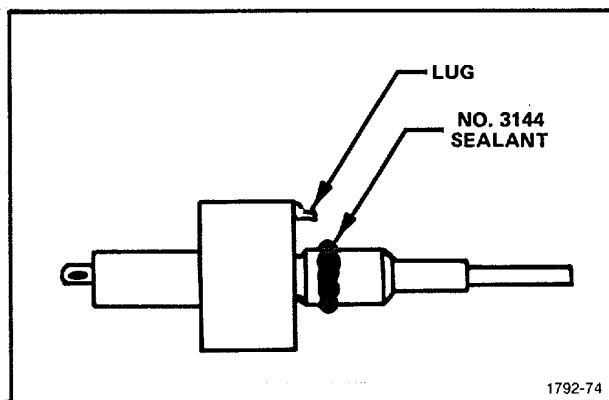

Figure 5-21. Application of sealant to ZERO REFERENCE control bushing.
20. Install the ZERO REFERENCE control in the Front Panel (see Figs. 5-21 and 5-22)
1. Form a bead of No. 3144 sealant around the threads of the bushing as shown in Fig. 5-21.